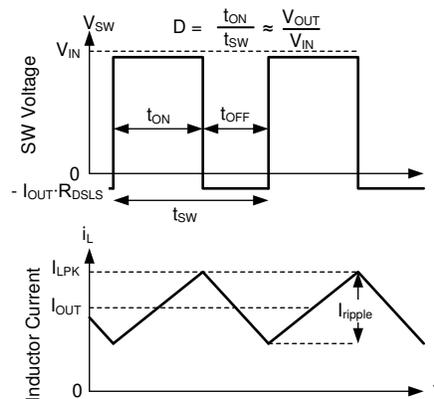

图 8-20. SW Voltage and Inductor Current Waveforms in Continuous Conduction Mode (CCM)
The following operating description of the LM6x4xx refers to § 8.2 and the waveforms in Figure 8-20. Both supply a regulated output voltage by turning on the internal high-side (HS) and low-side (LS) NMOS switches with varying duty cycle (D). During the HS switch on-time, the SW terminal voltage,  $V_{SW}$ , swings up to approximately  $V_{IN}$ , and the inductor current,  $i_L$ , increases with a linear slope. The HS switch is turned off by the control logic. During the HS switch off-time,  $t_{OFF}$ , the LS switch is turned on. Inductor current discharges through the LS switch, forcing  $V_{SW}$  to swing below ground by the voltage drop across the LS switch. The regulator loop adjusts the duty cycle to maintain a constant output voltage. D is defined by the on-time of the HS switch over the switching period:  $D = T_{ON} / (T_{ON} + T_{OFF})$ .